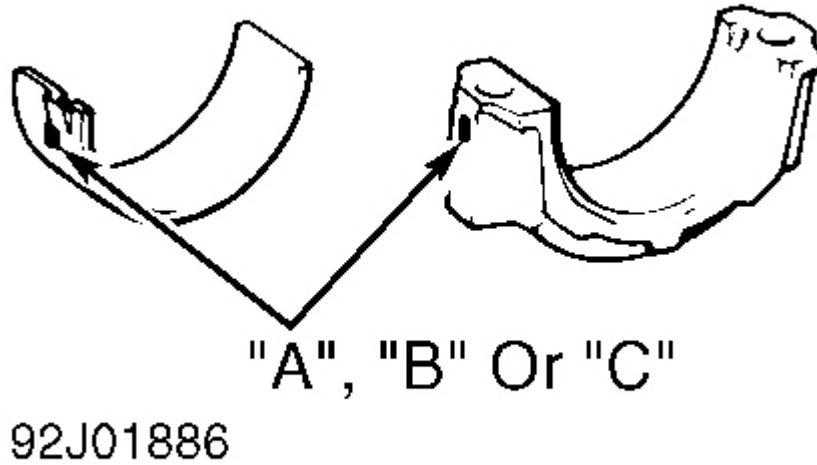

Fig. 13: Identifying Connecting Rod Cap & Bearing Size Marks
NOTE: Crankpin bore diameter is determined by size mark stamped on connecting rod cap. See **Fig. 13**.
2. Connecting rod cap and rod bearing are stamped with size mark ("A", "B" or "C"). See **Fig. 13**. Ensure size marks on connecting rod cap and rod bearing are the same. Rod bearing thickness is determined by rod bearing size mark. See **ROD BEARING SPECIFICATIONS** table.